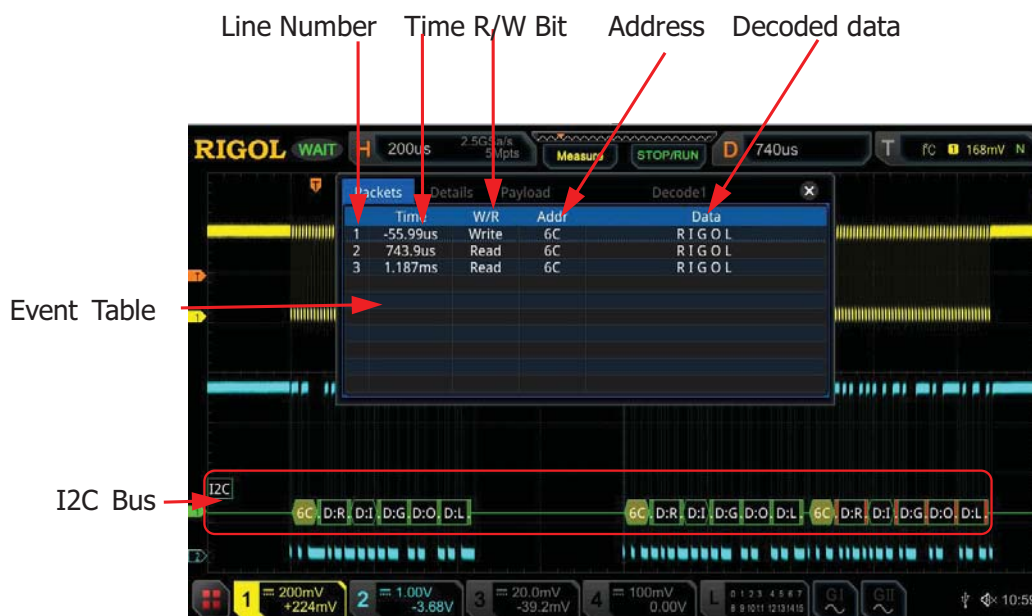

Figure 11-6 I2C Decoding Event Table
- Open or close the event table: Press **Event Table** continuously to enable or disable the event table. When you enable the event table, the following figure is displayed, as shown in Figure 11-6. You can also enable the touch screen to tap the icon  at the upper-right corner of the table to close the event table. Besides, when the operating status is "STOP", you can also rotate the multifunction knob  to select a specified line and view the corresponding decoding information.